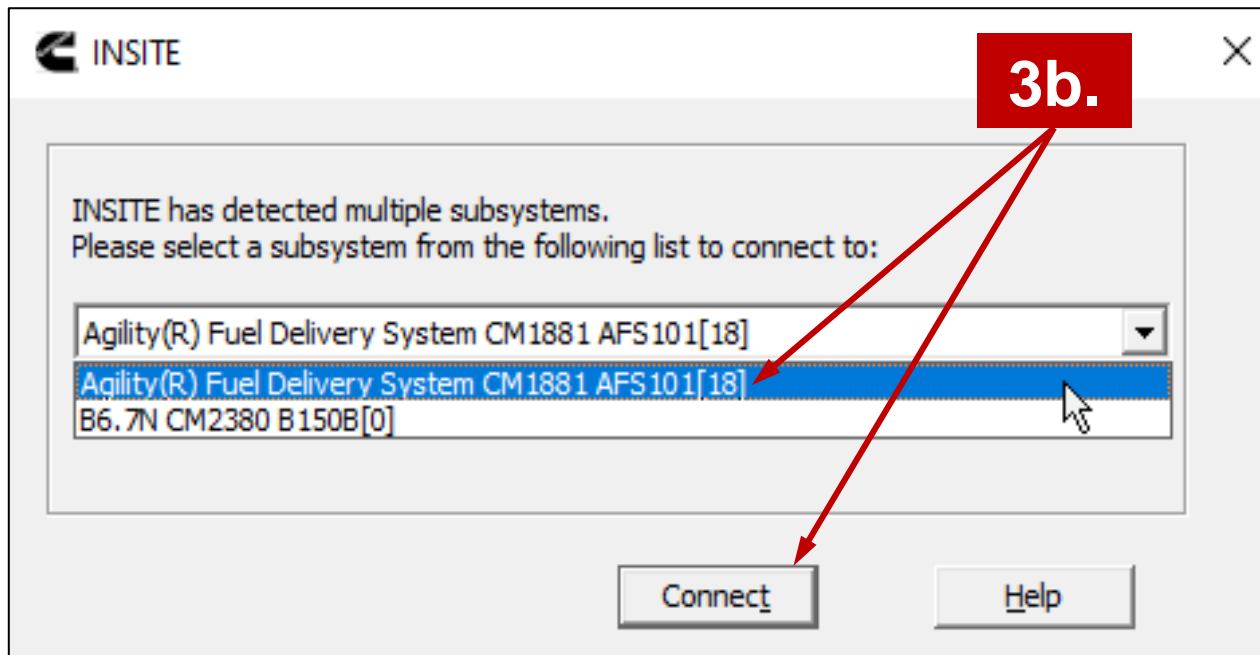

Figure 6.
Step 3b: Select "Agility Fuel Delivery System [18]" and click "Connect." Figure 6.